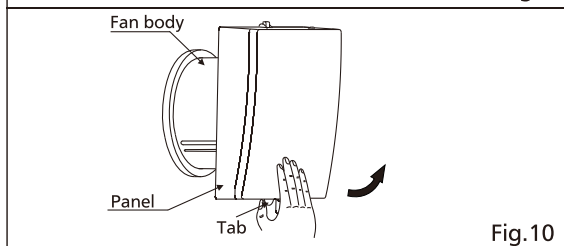

Fig.10
10. Detach the panel from fan body by pushing up and pulling outward the tab at the base of the panel.(Fig.10)